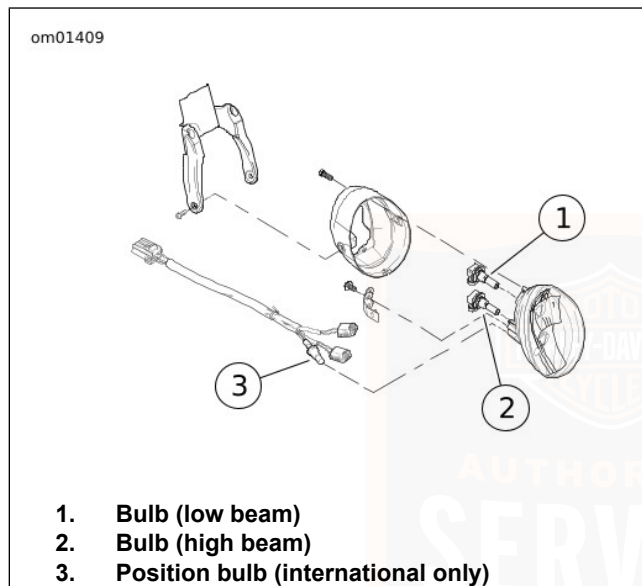

Figure 46. Headlamp Assembly (VRSCF shown)
2. See Figure 46. Reach behind the headlamp bucket and grasp the low beam (1) or high beam (2) bulb socket connector.